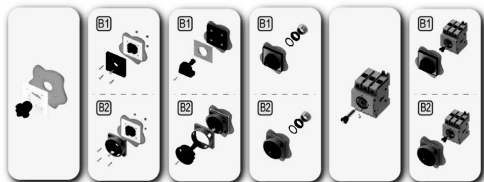

Figure 27 Panel installation sketch
7.2.3 Panel installation: confirm that the switch is in the off state → the mounting plate is open → the screw assembly connects the body, the installation panel and the installation plate → the name plate → the cover → the handle → tighten the screw. As shown in Figure 27